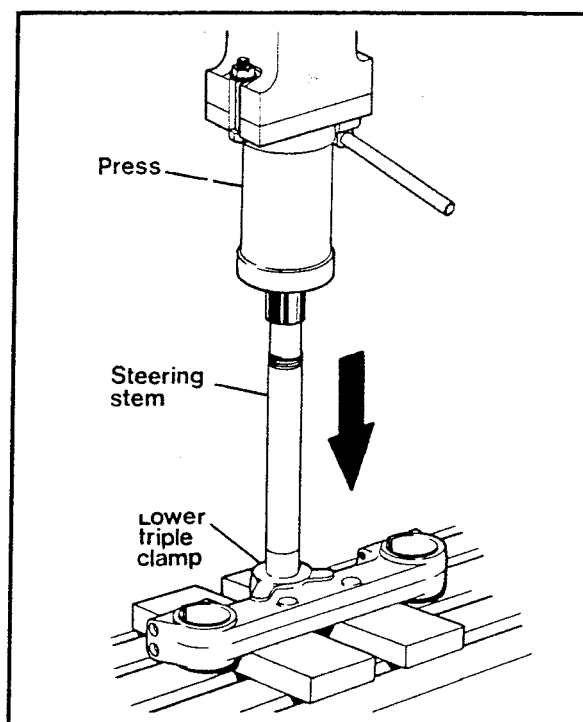

Figure 5-30. Steering Stem Removal
2. See Figure 5-30. To replace the lower bearing, it is necessary to remove the steering stem from the lower fork bracket using an arbor press. This will release the bearing (29), spacer (30) and rubber cap seal (31). To protect the threaded end of the stem during the pressing operation, screw the nut fully onto the steering stem.